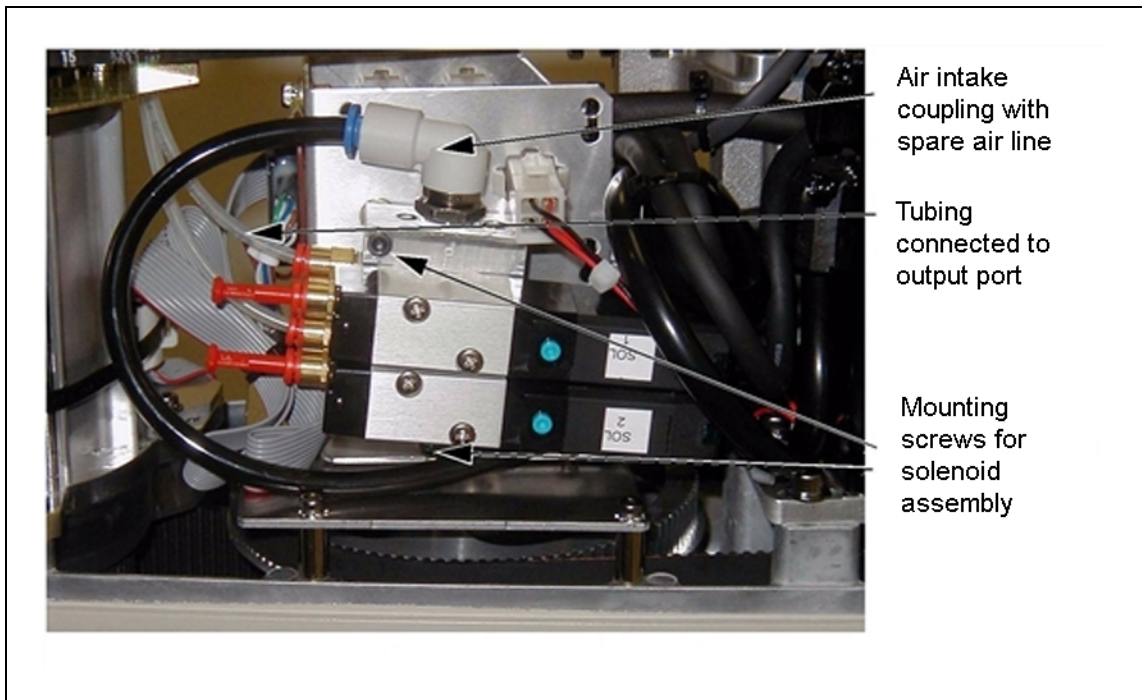

Figure 7-11. Solenoid Placement Using Mounting Hardware
5. Mount the solenoid manifold onto the bracket using the supplied M3 x 25 mm screws and washers. See Figure 7-11.